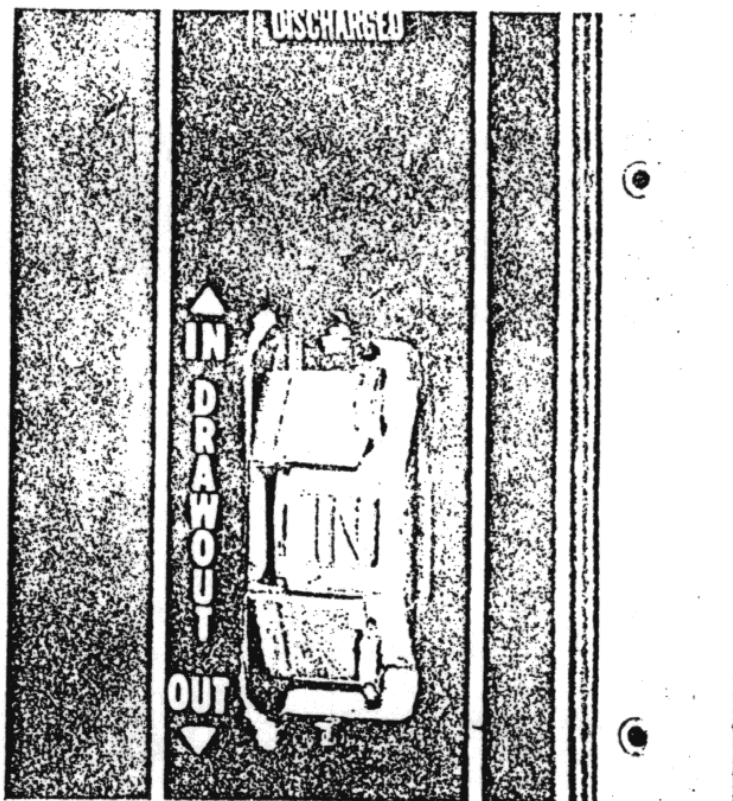

Figure 6
12. On a draw-out breaker, charge stored energy mechanism, close breaker and move draw-out interlock plate sideways. Breaker will trip. (Figure 6).